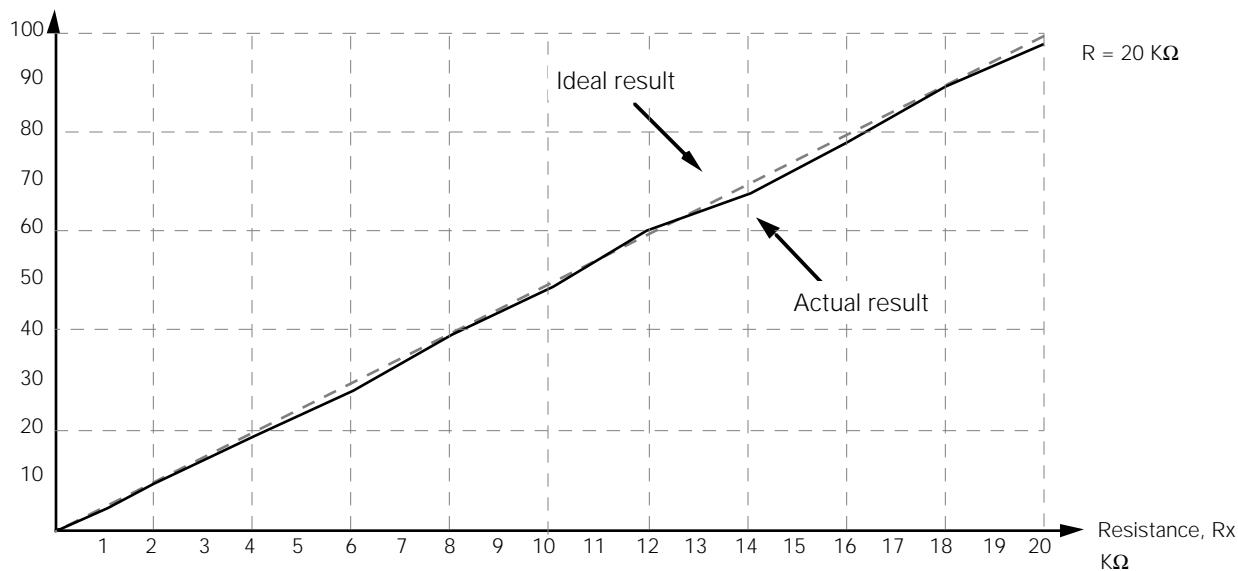

Figure 10 Improvement B – use of Vddctl
The new routine handles VDDCTL and also takes care of the final result. It is called *RESADC1.ASM*. See program listing (2) and Figure 10.